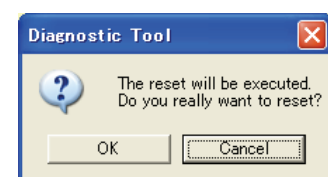

Fig. 9-6-4
- iii) Select the **[OK]** button, and the message dialog box will appear as in (Fig. 9-6-4).